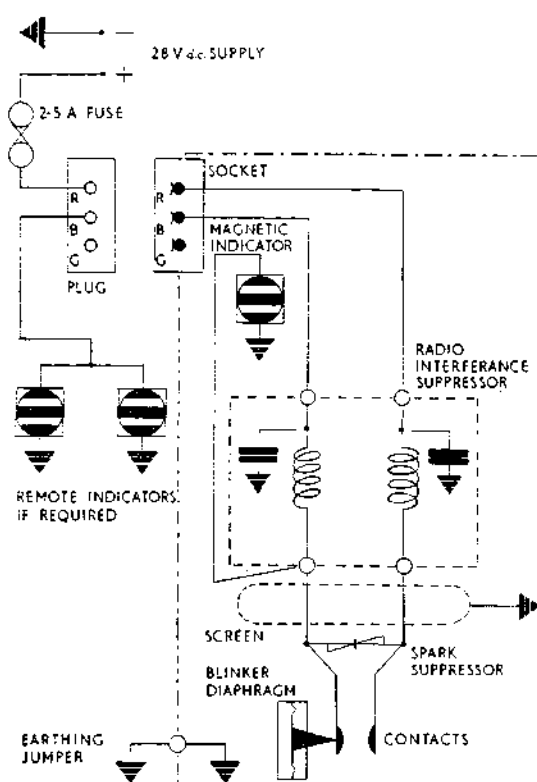

Fig. 4. Circuit diagram
38. When installing the regulator, ensure that the 28V d.c. supply is coupled in the correct polarity, and that the panel of the regulator is bonded to the aircraft in accordance with the circuit diagram (fig.4). The remote indicators illustrated in the diagram are not necessarily fitted in all types of aircraft. Only the outer nut is to be removed from the panel bonding screw (6-32 UNC). This nut is to be used to secure the aircraft bonding lead to the panel.